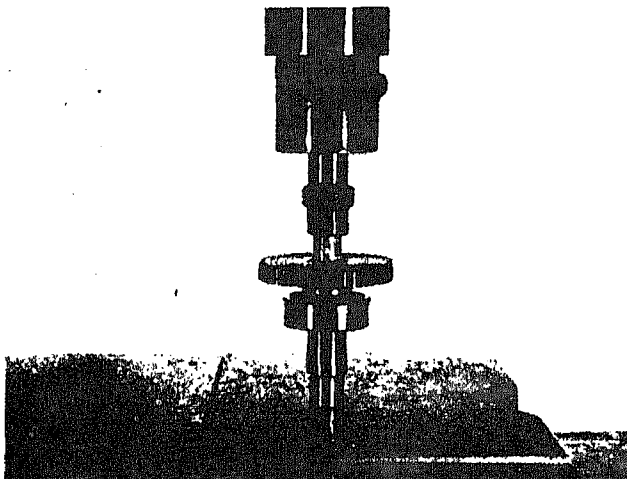

Fig. 506-9 Pressing tachometer gear on drive shaft
3. Lubricate shaft and bore before pressing tachometer gear on shaft and against governor drive gear. Fig. 506-9.